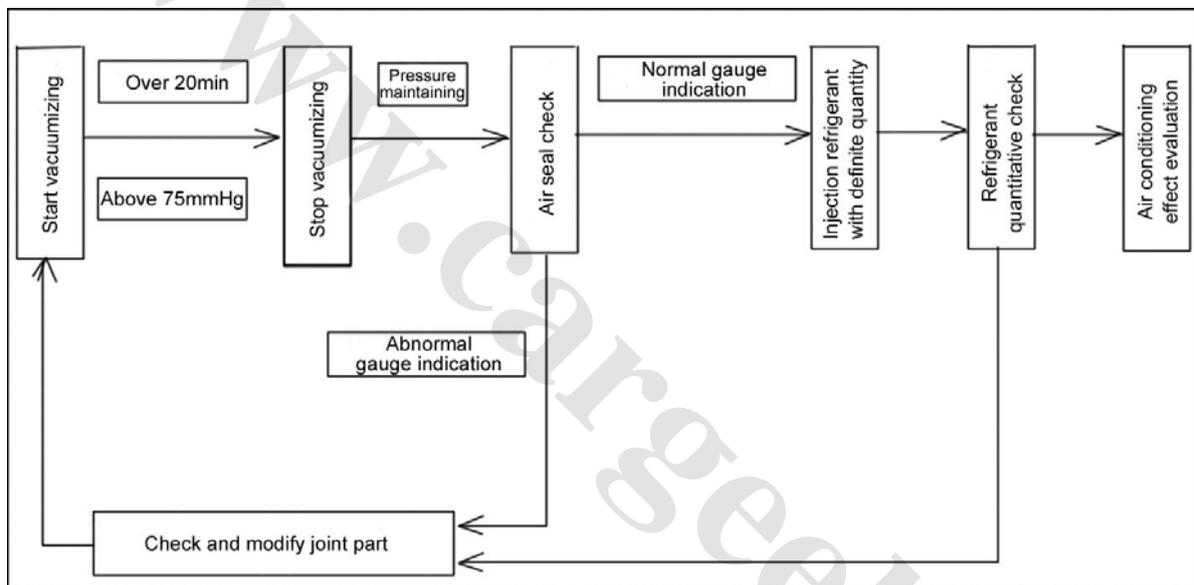

Figure 6-42
(1) Must apply authentic R-134a cooling medium with qualified standard of component, moisture content, foreign matters and foul gas. 13.6kg canned cooling medium is recommend for service station;
(2) Refrigerant charge must comply with the provision of complete vehicle factory, both excess and lack will reduce the refrigerating effect.
(3) Before injecting refrigerant, completely check whether every pipe O-ring seal is in good condition and whether leakage of every part exists;
(4) Before compressor starts working, can inject from the low pressure side and high pressure side simultaneously; after compressor starts working, can only inject from the low pressure side slowly; Figure 6-42.